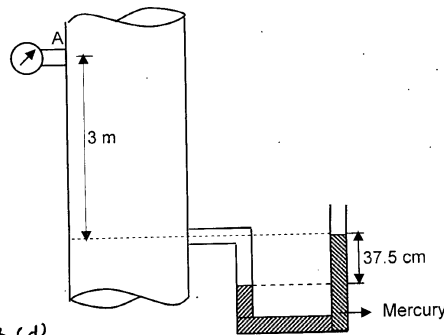

Fig. Q 3 (d)
- d. A vertical pipe line carrying an oil of SG 0.9 is attached with a gauge at A and a manometer as shown in Fig. Q 3(d). What is the gauge reading at 'A'? Also find the absolute reading at A. 7